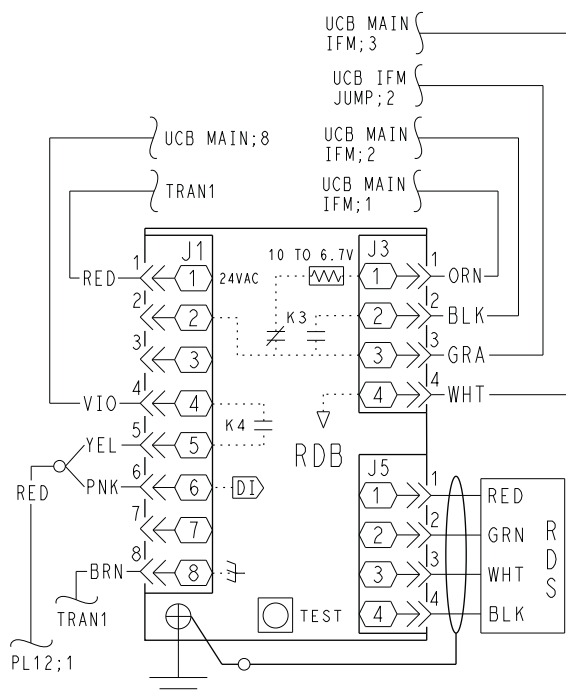

Fig. 13 — Refrigerant Dissipation Board (RDB) — Typical Wiring Connections
11. During normal operation RDB passes control signal from user speed selection (3.8 vdc to 10.3 vdc) BLK to GRA through the K3 relay. See Fig. 13. K3 relay should close sending DC voltage to the blower motor PL1 and PL2 which initiates blower operation.